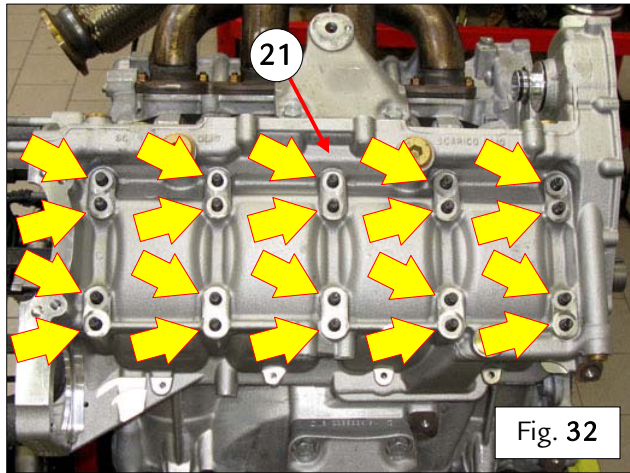

Fig. 32
1A.80 Within 10 minutes of applying CAF 4 paste, carefully fit the lower crankcase shell (21) on the crankcase, inserting it on the respective stud bolts with care – Fig. 32.
1A.81 Fit the indicated washers, with the machined sides turned to face the lower crankcase shell (21) – Fig. 32.